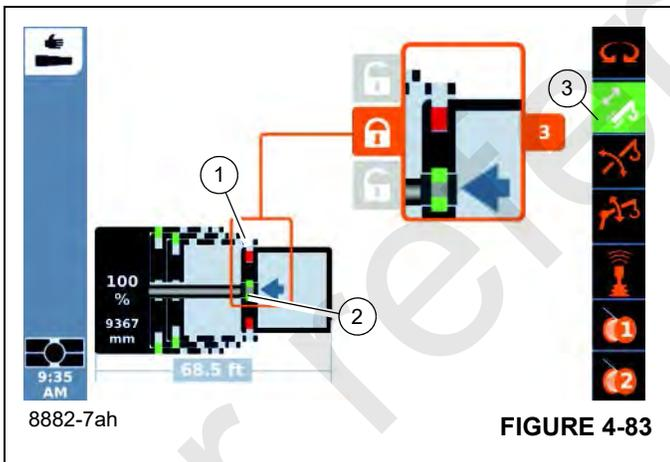

FIGURE 4-83
- Telescoping mechanism ON – symbol (3), (Figure 4-83) green.
- Telescopic section unlocked – symbol (1) red.
- Telescoping cylinder locked – symbol (2) green.